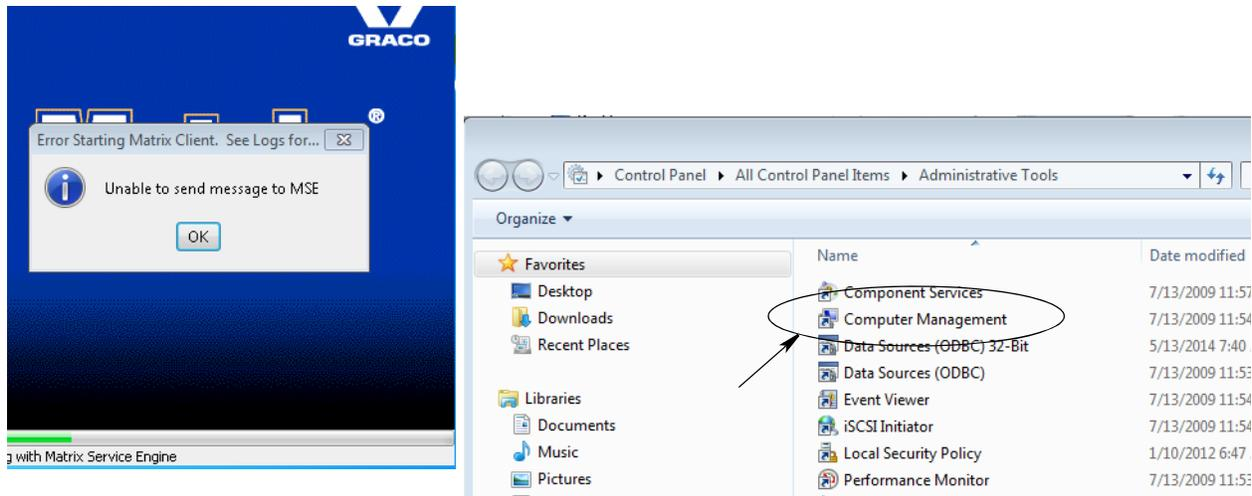

FIG. 209
- a. Access the control panel and select Administrative Tools. Double click on the Computer Management link (Fig. 209).